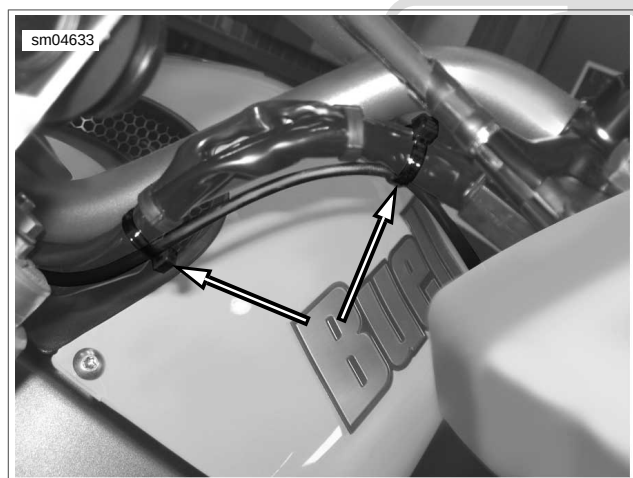

Figure 7-32. Location of Cable Straps, Left Side
4. See Figure 7-32. Secure the left heated hand grip wire to the hand control wire bundle.